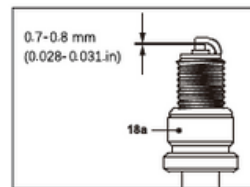

Fig. 31
6. Check the spark plug gap. It should be 0.7–0.8 mm (Fig. 31).
8. When installing the spark plug (18a), first screw it in by hand, then lightly tighten it with a spark plug wrench (33).